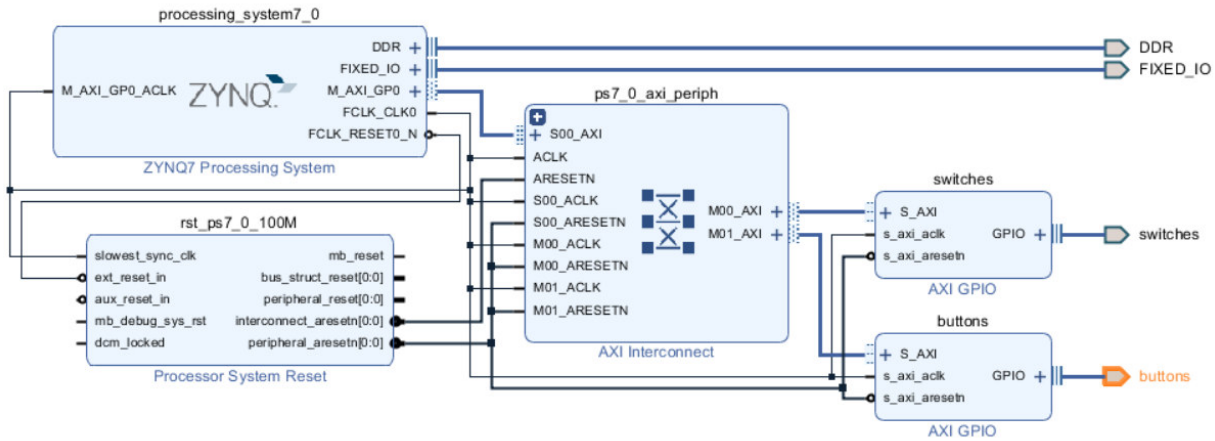

Figure 23: Finished block design
24. The final block design should look like Figure 23 below.